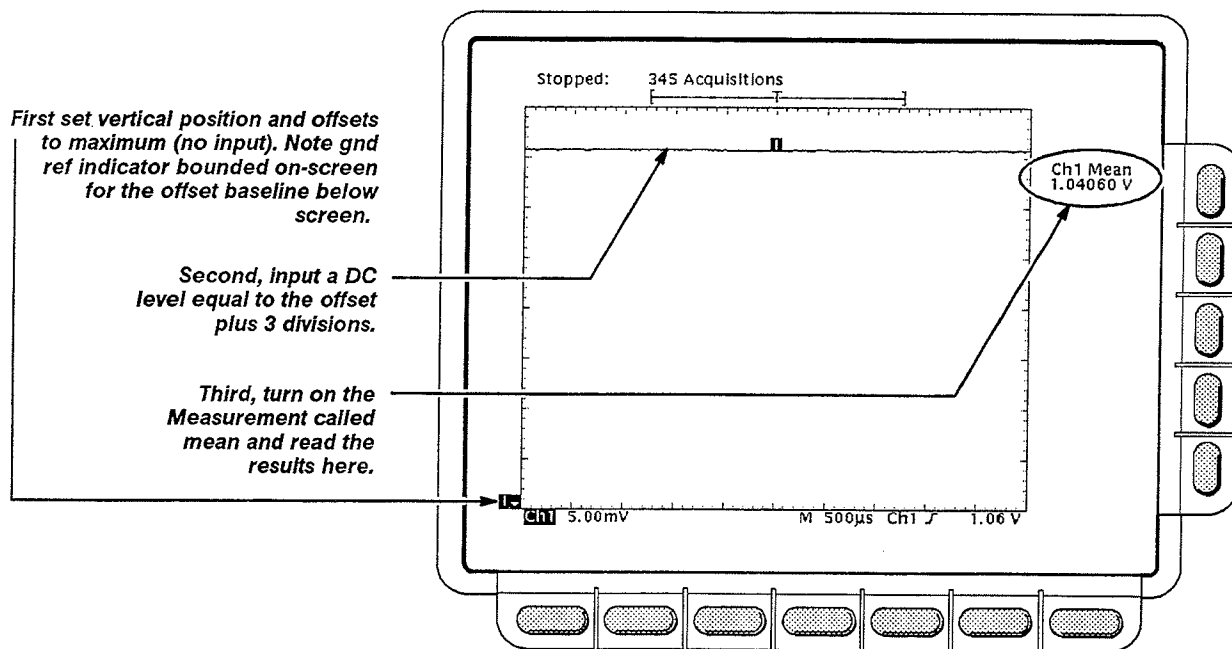

Figure 4-7: Measurement of DC Accuracy at Maximum Offset and Position
e. *Measure the test signal:* Press **CLEAR MENU**. Read the measurement results at the **Mean** measurement readout. See Figure 4-7.